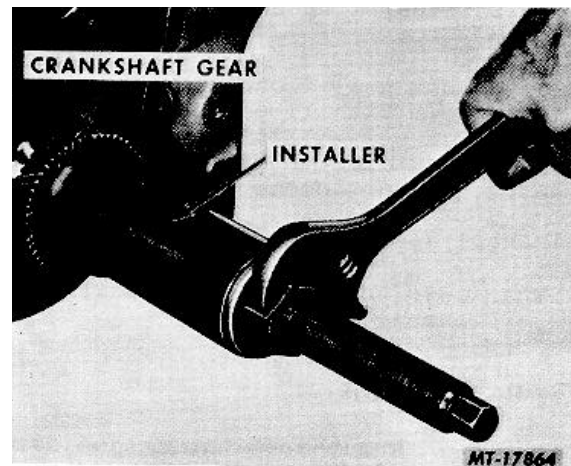

Fig. 113. Installing Crankshaft Gear Using SE-1900 Installer
12. Position gear key in keyway of crankshaft. Lubricate inside diameter of crankshaft gear with a commercial press-fit lubricant. Install crankshaft gear using SE-1900 Installer Tool Set (Fig. 113).